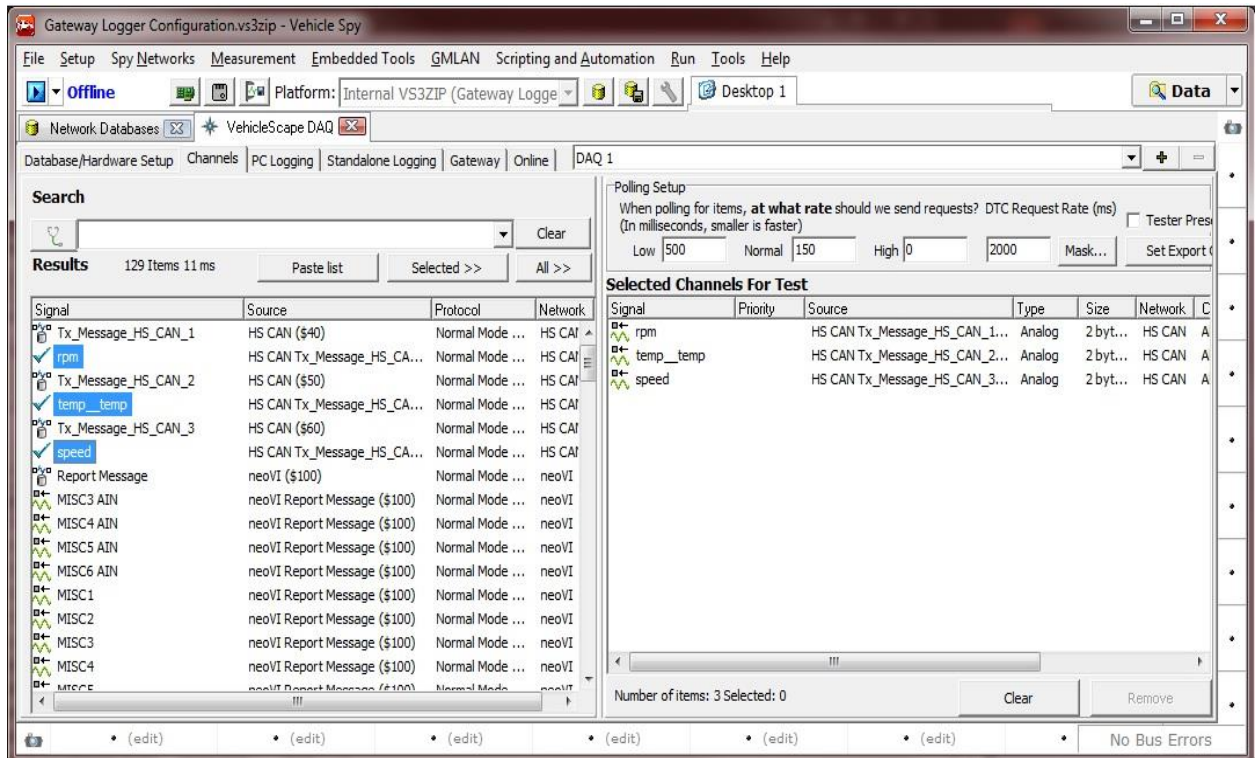

Figure 2: Select the required messages.
- Select the Channels Tab (Figure 2)